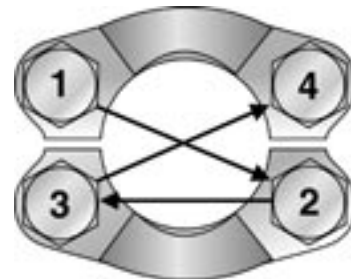

Fig. T10 – Flange Bolt Tightening Sequence
6. Torque bolts in diagonal sequence (see Fig. T10) in small increments to the appropriate torque level listed in Table T6 or T7 below.